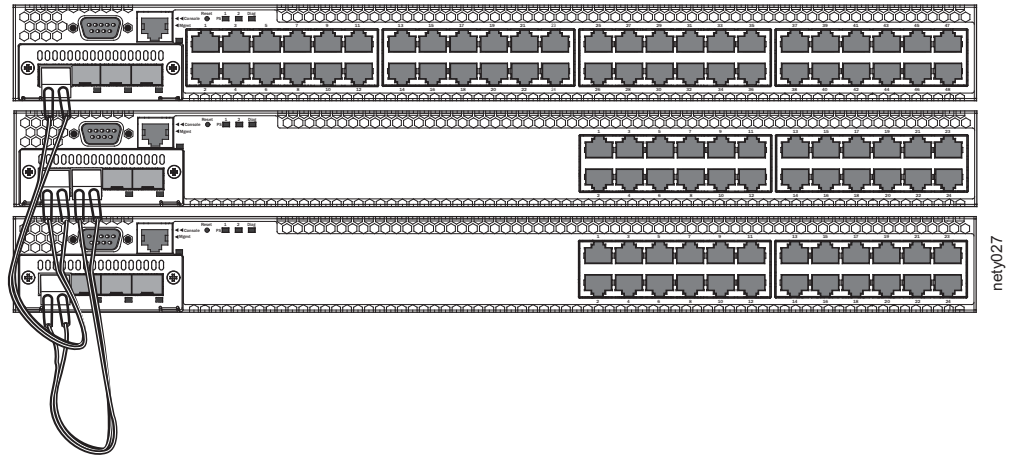
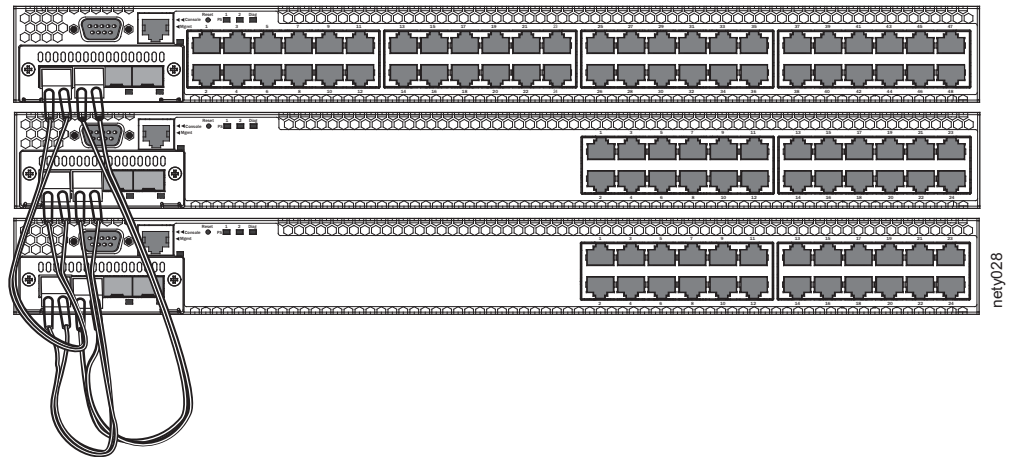

Figure 23. Connecting 4002-Y2A, Y4A, Y2C, and Y4C devices in a linear stack topology
Figure 24. Connecting 4002-Y2A, Y4A, Y2C, and Y4C devices in a ring stack topology
Figure 23 on page 21 and Figure 24 on page 21 show how stacking cables are connected between 4002-Y2A, Y4A, Y2C, and Y4C devices in a stack. The connection is based on 10 Gbps SFP+ using LC-LC MM fiber cables. These devices support linear and ring stack topologies with the optional SFP+ modules installed, and can also operate in standalone mode.
3. Repeat steps 1 and 2 for each unit in the stack. Form a simple chain starting with a stacking port on the top unit and ending at a stacking port on the bottom unit (stacking up to eight units). See Figure 23.
4. (Optional) To form a ring stack topology, plug one end of an LC-LC MM Fiber cable into the remaining stacking port on the bottom unit and the other end into the remaining stacking port on the top unit. See Figure 24.